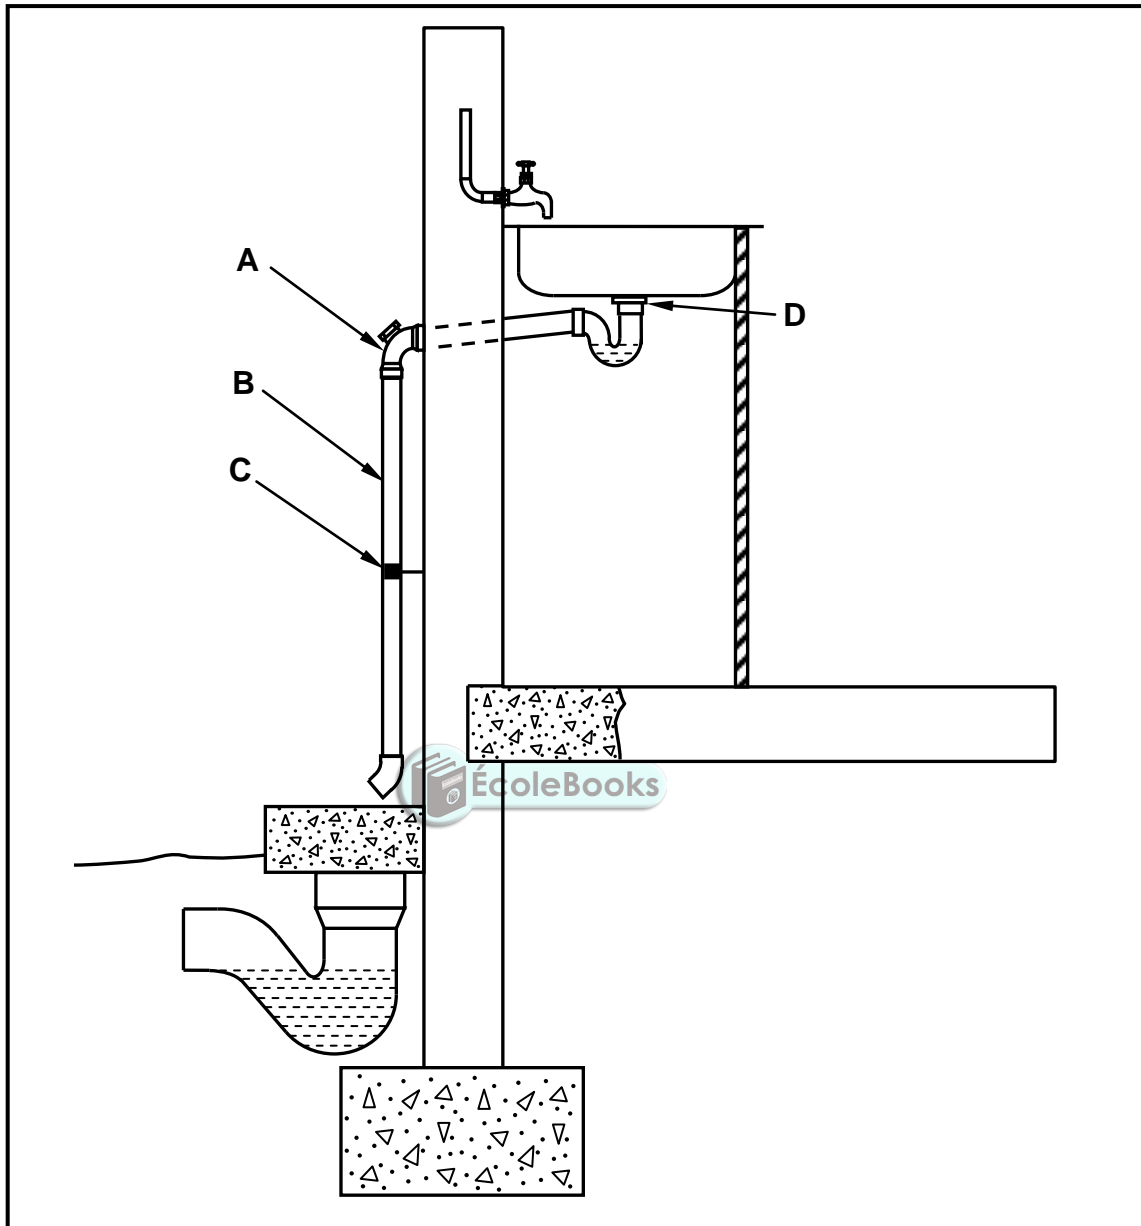

FIGURE 6.3
6.3 FIGURE 6.3 below shows a sectional view of a sink with the required pipe work and a gully. Study the drawing and answer the questions that follow.